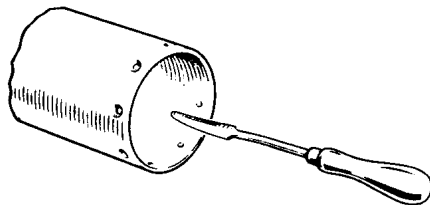

Fig. 7
9. Before reassembly, check that there are no burrs in the ends of the tubes and, if present, remove with a scraper (Fig 7).